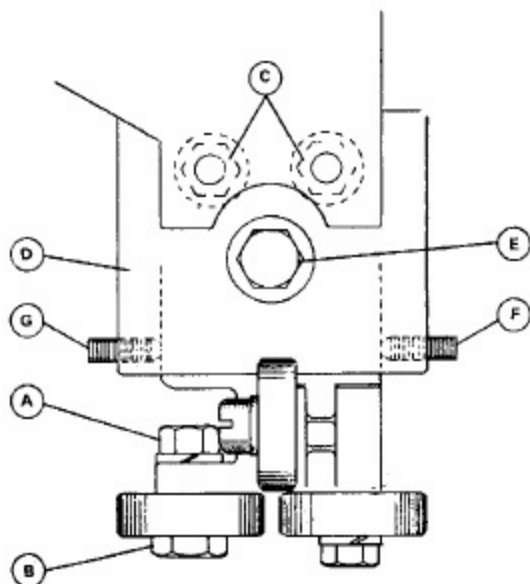

Figure 6
NOTE: THE FOLLOWING INSTRUCTIONS ARE FOR ONE GUIDE ARM, PROCEDURE IS SAME FOR BOTH. LEFT HAND GUIDE ARM IS SHOWN IN FIGURE 6.
1. Loosen nut (A, Figure 6) and turn eccentric axle (B) until there is no light gap between rollers and blade... do not pinch the blade. Tighten nut (A).
2. Loosen two screws (C) and move guide link (D) until blade is square with bed and blade is in natural line between the drive and idle wheels. Adjust height of guide link (D) so upper roller just touches back of blade.